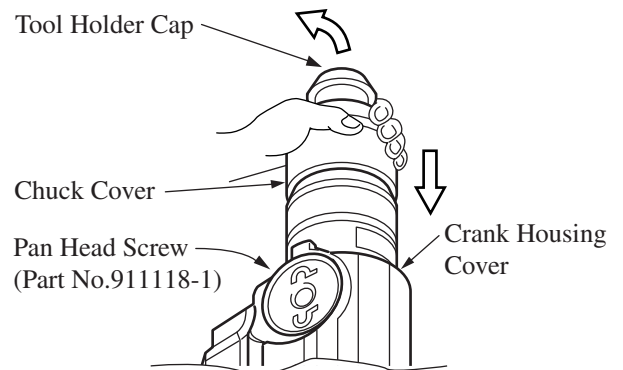

Figure 9
1. Slide down Chuck Cover and remove Tool Holder Cap. (See Fig.9.)
2. Remove Pan Head Screw, and then remove Crank Housing Cover. (See Fig.9.)